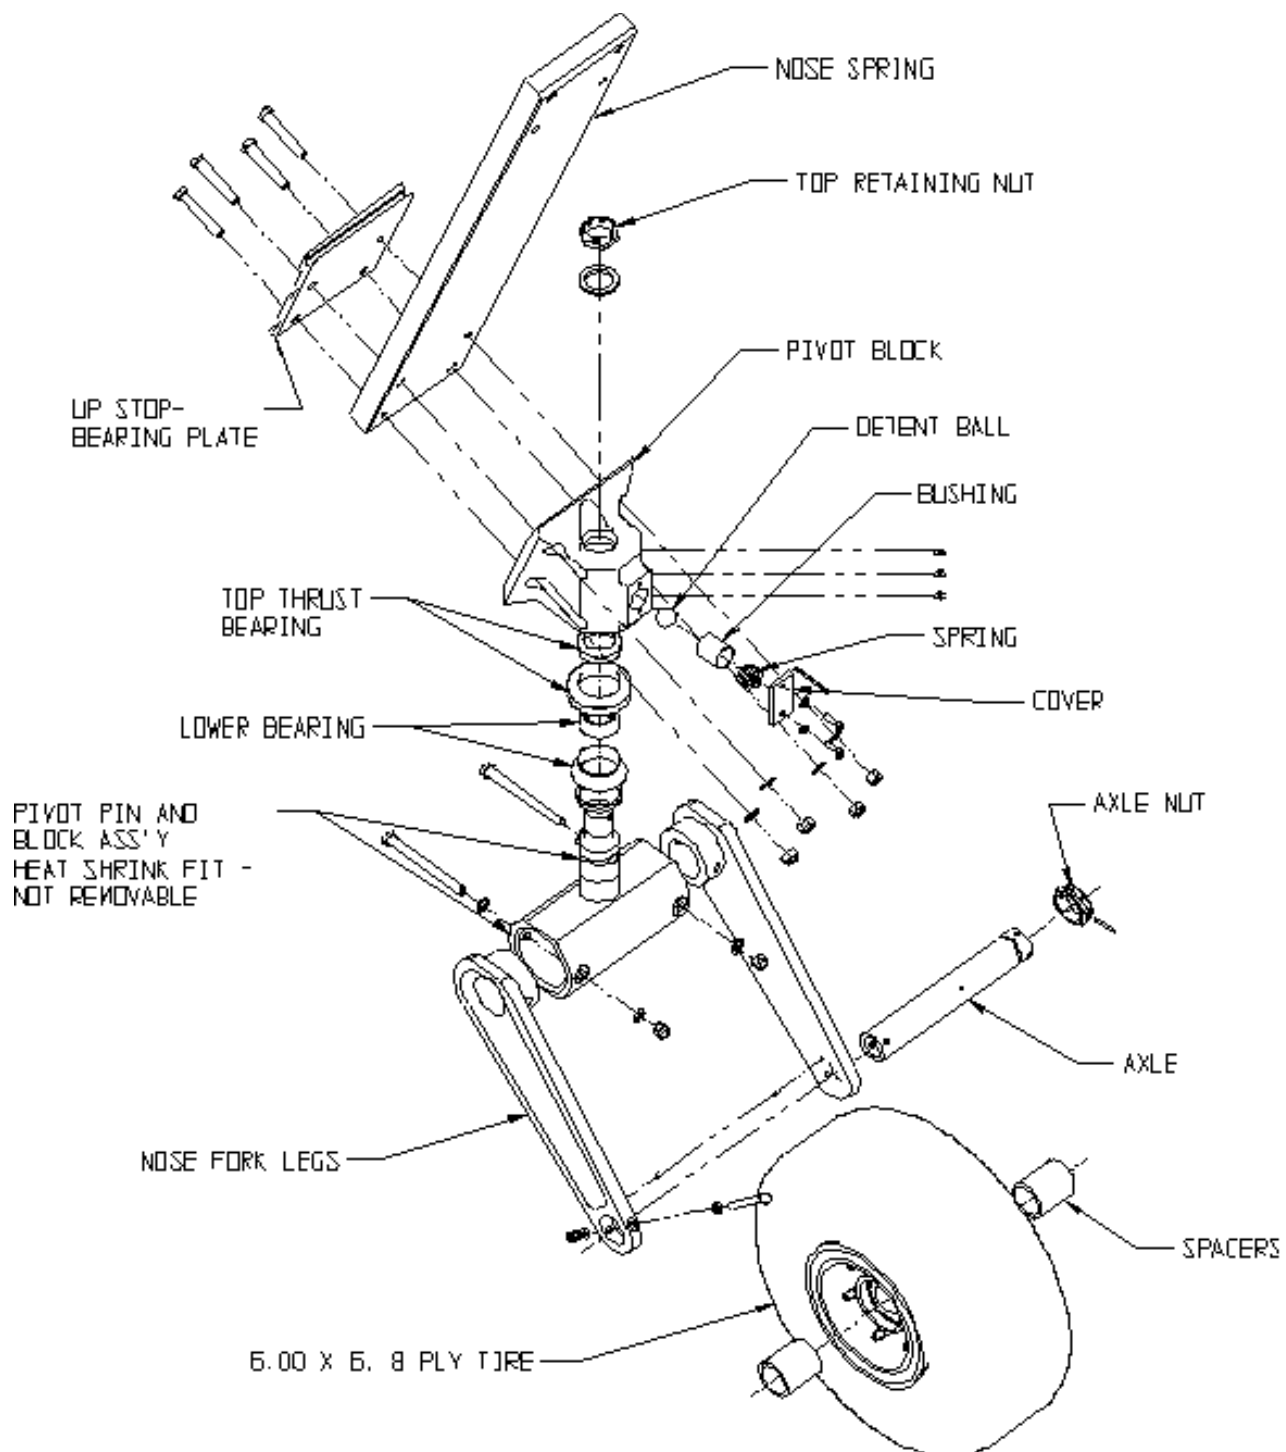

FIGURE 2.10
The dual piston brakes need no special care other than to maintain the brake disc free of rust, which causes premature brake lining wear. Bleeding is carried out in the usual manner from the bottom up. Although, since the line is "T"ed to the double brake, one must remember to bleed one segment of the Y first, then finish the entire job through the remaining segment. Main wheel tires are standard 8:50 x 10, 8-ply type III aircraft tires, inflated to 50 +/- 5 psi. (Refer to figure 2.10).
On top of pivot block, remove cotter pin from retaining nut. Remove nut. On aft side of pivot block, remove the (2) cap bolts on .25 thick cover. Remove spring. This will loosen retaining ball and lower fork will slide out. Refer to figure 2.10 for assembly.